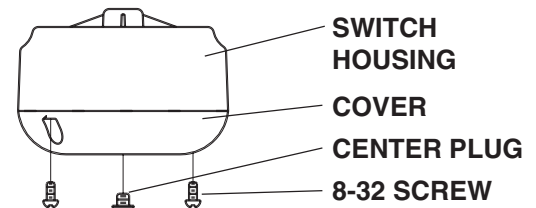

FIG. 1
1. Remove the cover from fan by removing two brass 8-32 screws and save these screws for re-attaching cover. Remove plastic wire nuts from switch housing wires and strip 1/2" insulation from both wires (black or blue, and white). Remove the center plug from the cover. See FIG. 1